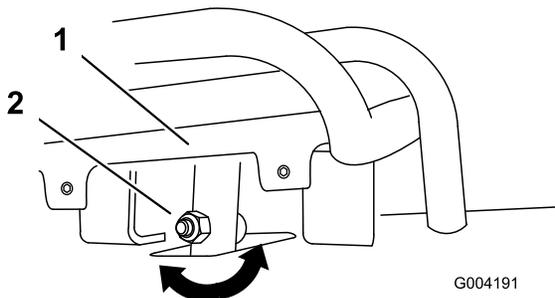
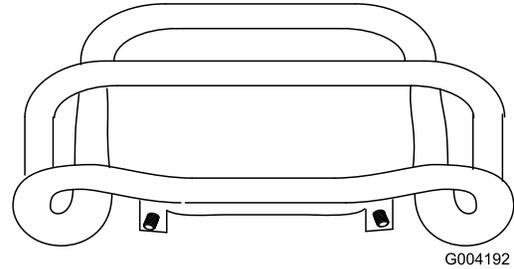

Figure 51
Figure 52
4. If the front of the traction control does not rest square and flush with the reference bar, loosen the flange nut and bolt in the stem of the traction control (Figure 51).
5. Adjust the traction control so that it rests flush against the reference bar when it is pulled straight back (Figure 51 and Figure 52).
- C. Loosen the flange nut and bolt in the stem of the traction control (Figure 51).
- I. Adjust the traction control so that it rests flush against the reference bar when it is pulled straight back (Figure 51 and Figure 52).